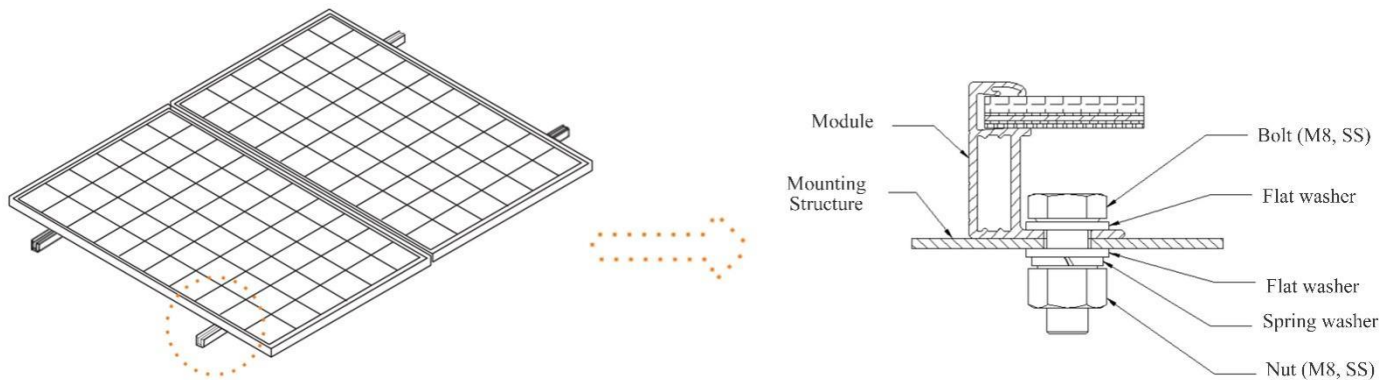

Figure 17 Installation of aluminum frame Module bolt hole
- ◇ When selecting the bolt installation method, ensure that there are at least four bolts on each Module, and the bolts need to be arranged symmetrically (Figure 17). The different mounting positions of the bolts affect the maximum load capacity of the Module (Table 3).